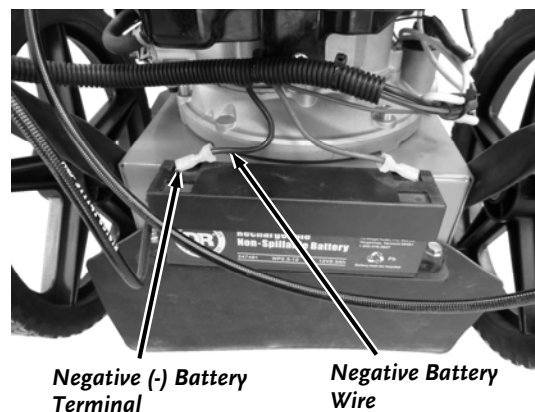

Figure 9
- Connect the black wire by pushing the plastic connector onto the negative (-) Battery terminal (**Figure 9**).